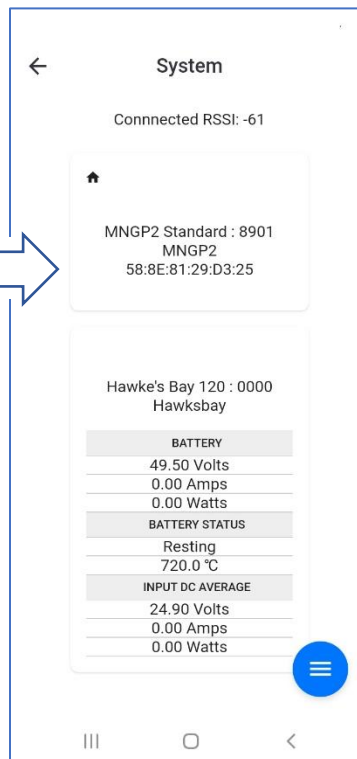

Figure 16
6. The FW app will connect to the MNGP2, then the app will appear as shown in **Figure 16**.